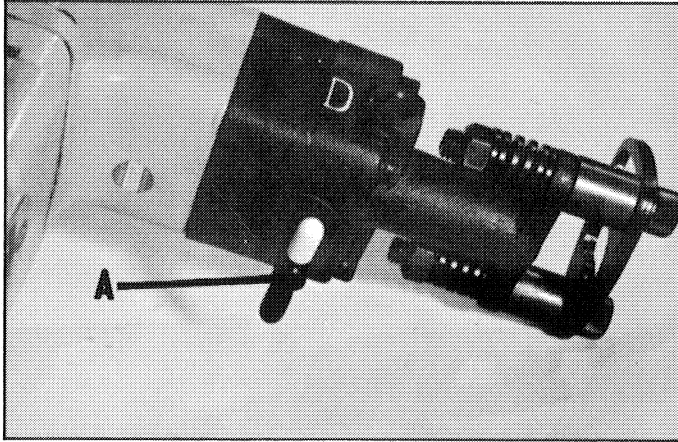

Fig. 4
A "T" shaped lever (A), having a "WHITE" end and a "BLACK" end, is located beneath the nosepiece Fig. 4.